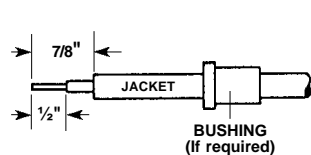

Fig. 2
- Cut and strip each conductor as shown in Fig. 2. For 16 AWG and 1.5 mm² wire, slide bushing up cord as shown in Fig. 2.